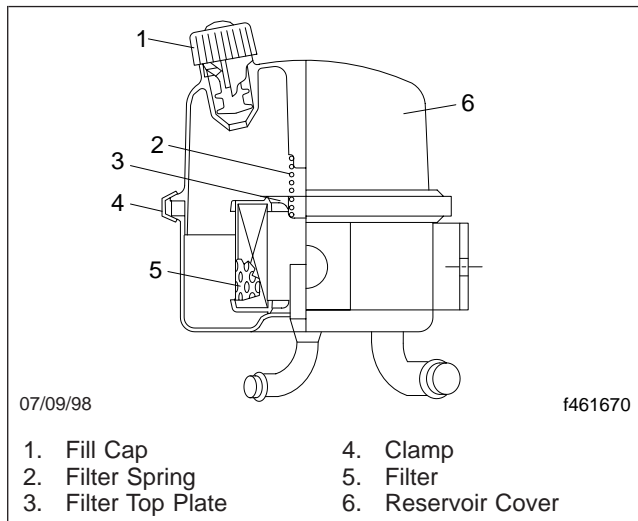

Fig. 7, Nelson Power Steering Reservoir and Filter
NOTE: If the power steering reservoir in the vehicle looks like the reservoir shown in Fig. 7, use the following procedure.
4. Loosen the clamp and remove the cover along with the filter spring and the filter top plate. See Fig. 7.